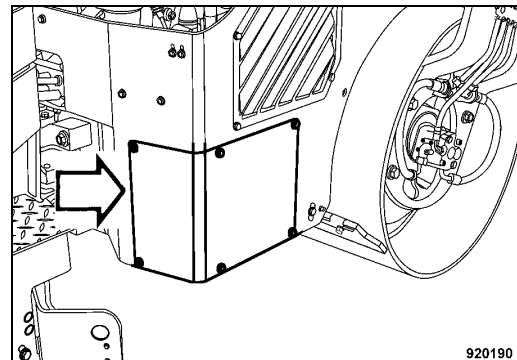

Fig. 153
- Disassemble the covering flap of the battery compartment (Fig. 153).